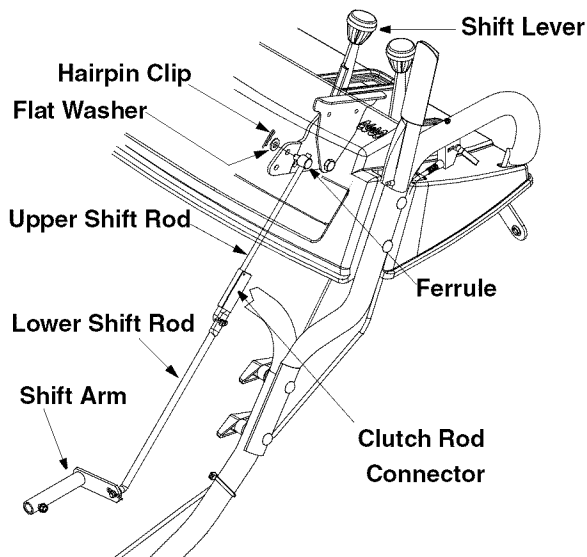

Figure 13
- Remove the hairpin clip and flat washer from the shift handle under the handle panel. See Figure 13.
- Place shift lever in sixth (6) position or fastest forward speed.
- Rotate the ferrule up or down on the shift rod as necessary until the ferrule lines up with the upper hole in the shift lever. See Figure 13.